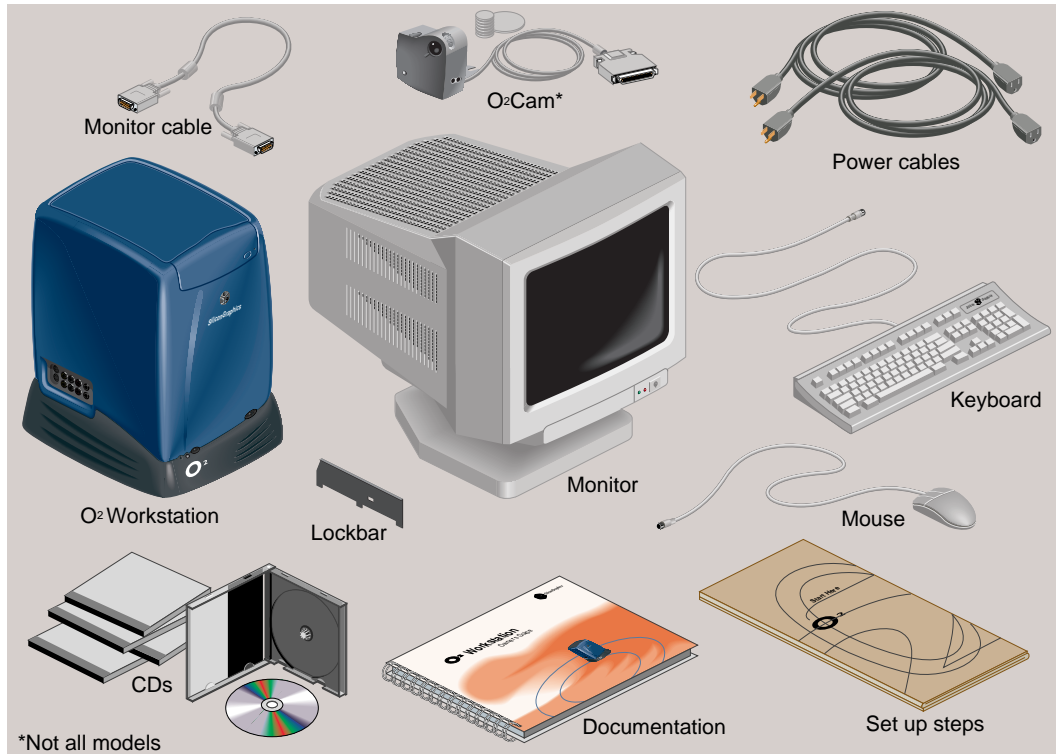

Figure 1-5 O2 Workstation Parts
1. Check that you received all the parts shown in Figure 1-5.